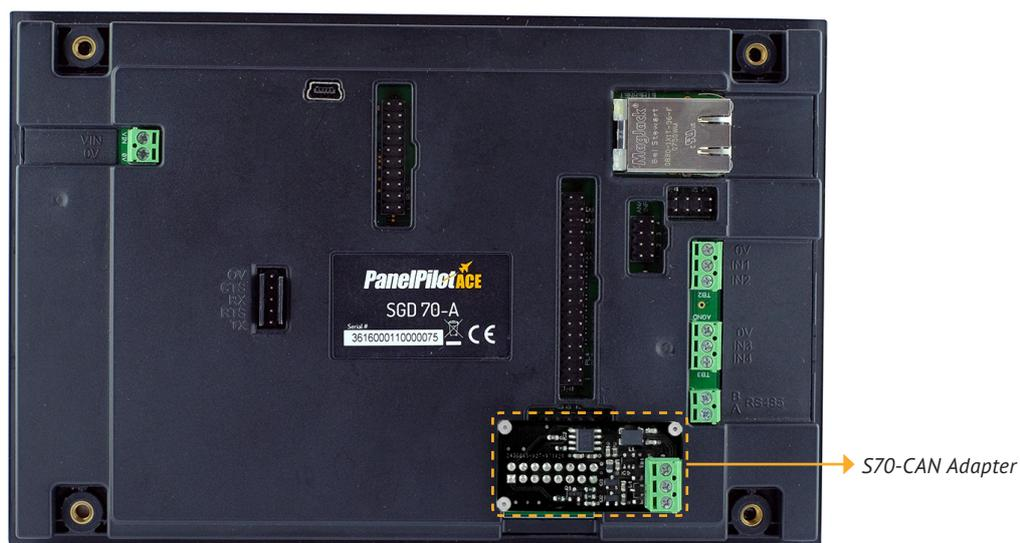

Figure 1. Plugging in the S70-CAN Adapter.
2. Plug the S70-CAN Adapter into the SK2 Pin Header on the reverse of the SGD 70-A device (see Figure 1).